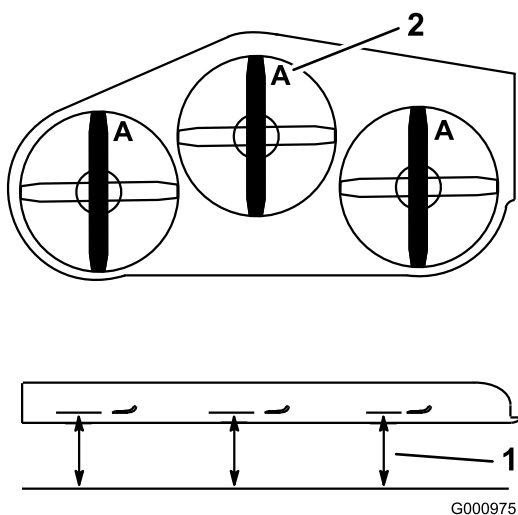

Figure 65
2. Measure from a level surface to the cutting edge, position A, of the blades (Figure 65).